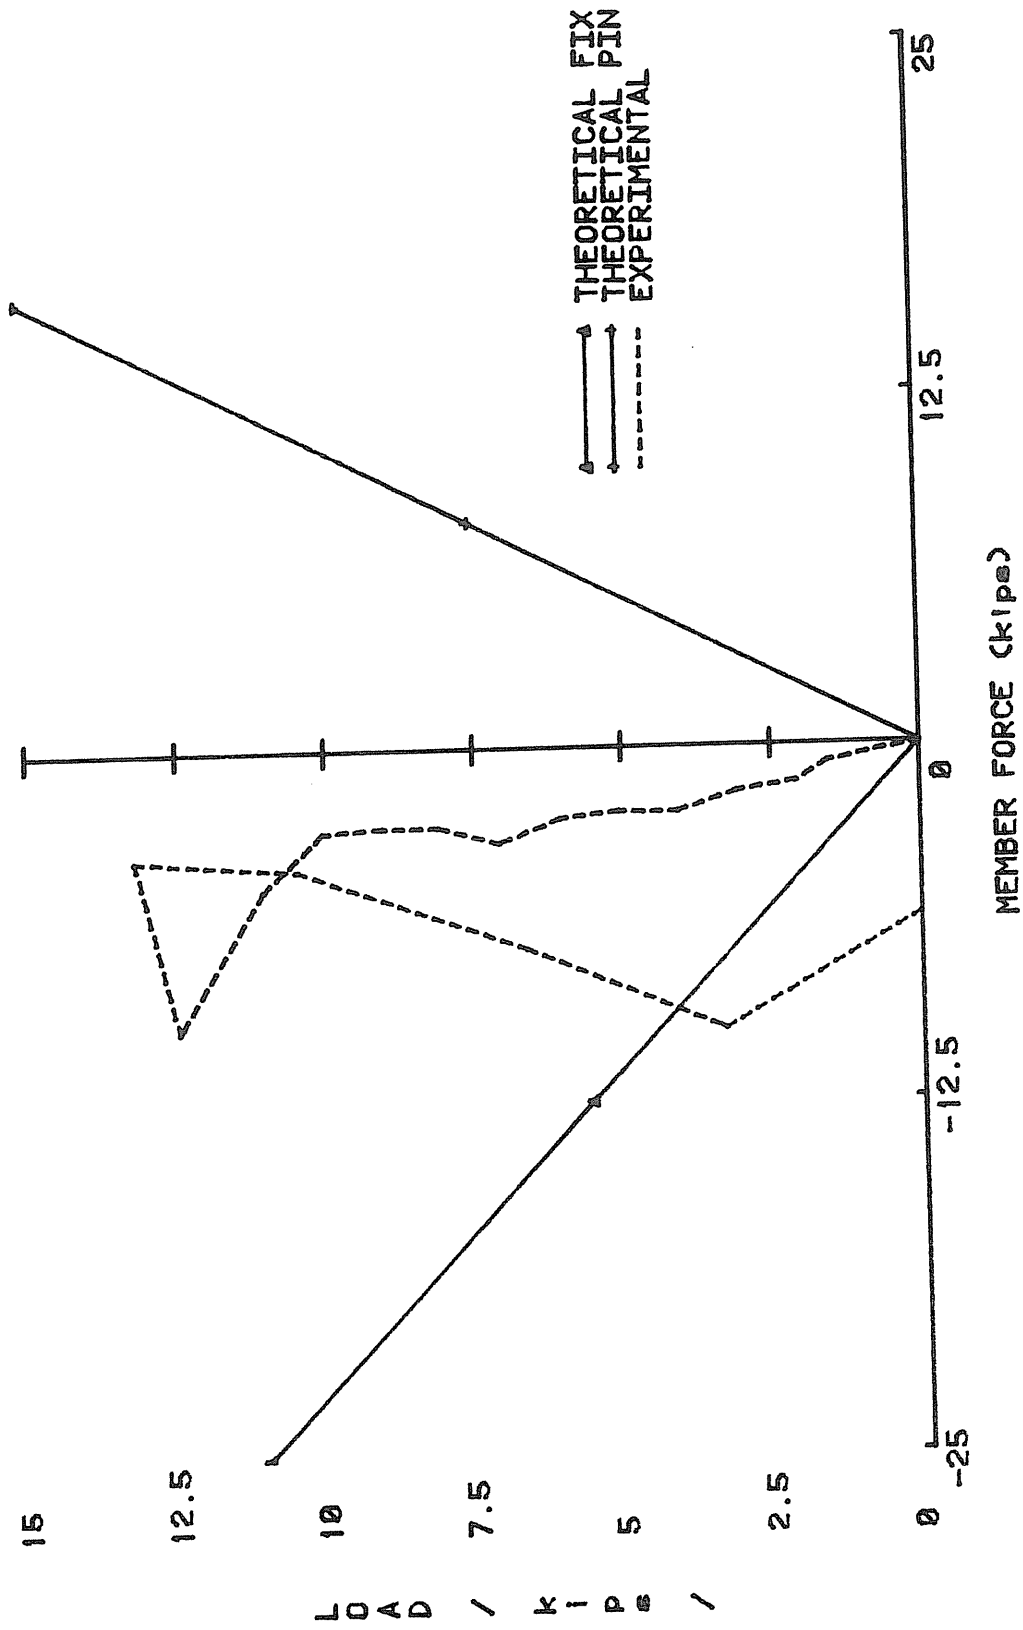

FIGURE A.6 LOAD VS. MEMBER #2 FORCE, TEST PB1
- Figures A.6 to A.12 show that the member forces were less than predicted for all members except the force in member #48 which was greater than predicted.